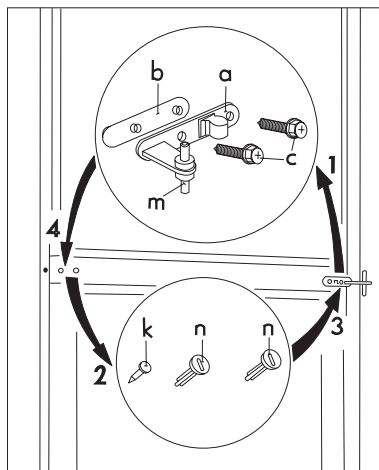

Fig. 3
spacer (b) under the door mount is also removed (Fig. 3).
- Remove the left-hand cover pin of the double door mount (3 pieces, n, k) and move to the other side (Fig. 3).
- Disassemble the door locking elements (u, v) by unscrewing the screw (s) (Fig. 3).
- Fit the pin of the double door mount (m) into the left-hand hole of the freezer door (Fig. 3).